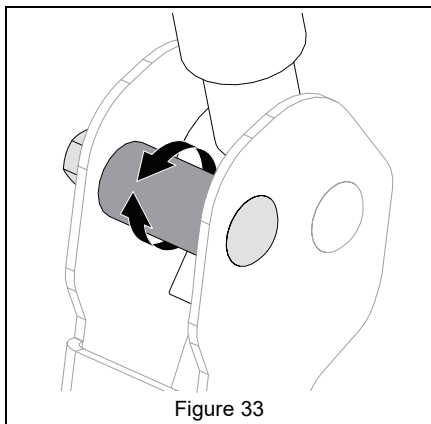

Figure 33
4. Turn eccentric spacer so levers are at the same height and have a 1.3 cm – 2.5 cm (1/2" – 1") gap between lever ends. See Figure 33.